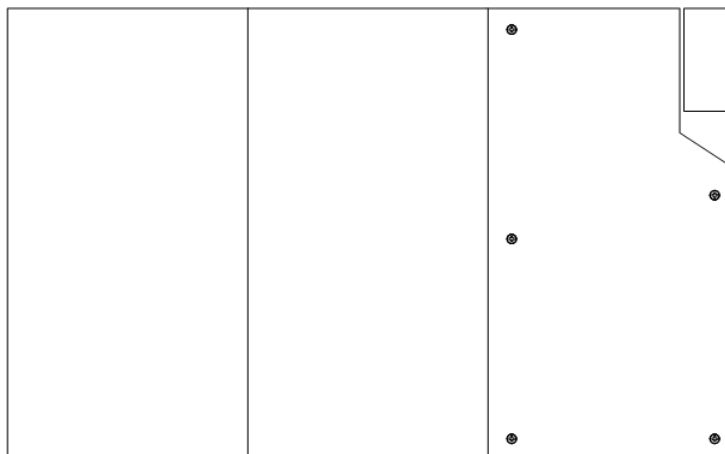

Figure 11.21 Mounting frame – cover of the DC voltage supply connectors (top view)
- Cautiously pull the component out of the subrack until the cover of the V_{DC} voltage supply connectors on the side of the component is accessible, refer to Figure 11.21.